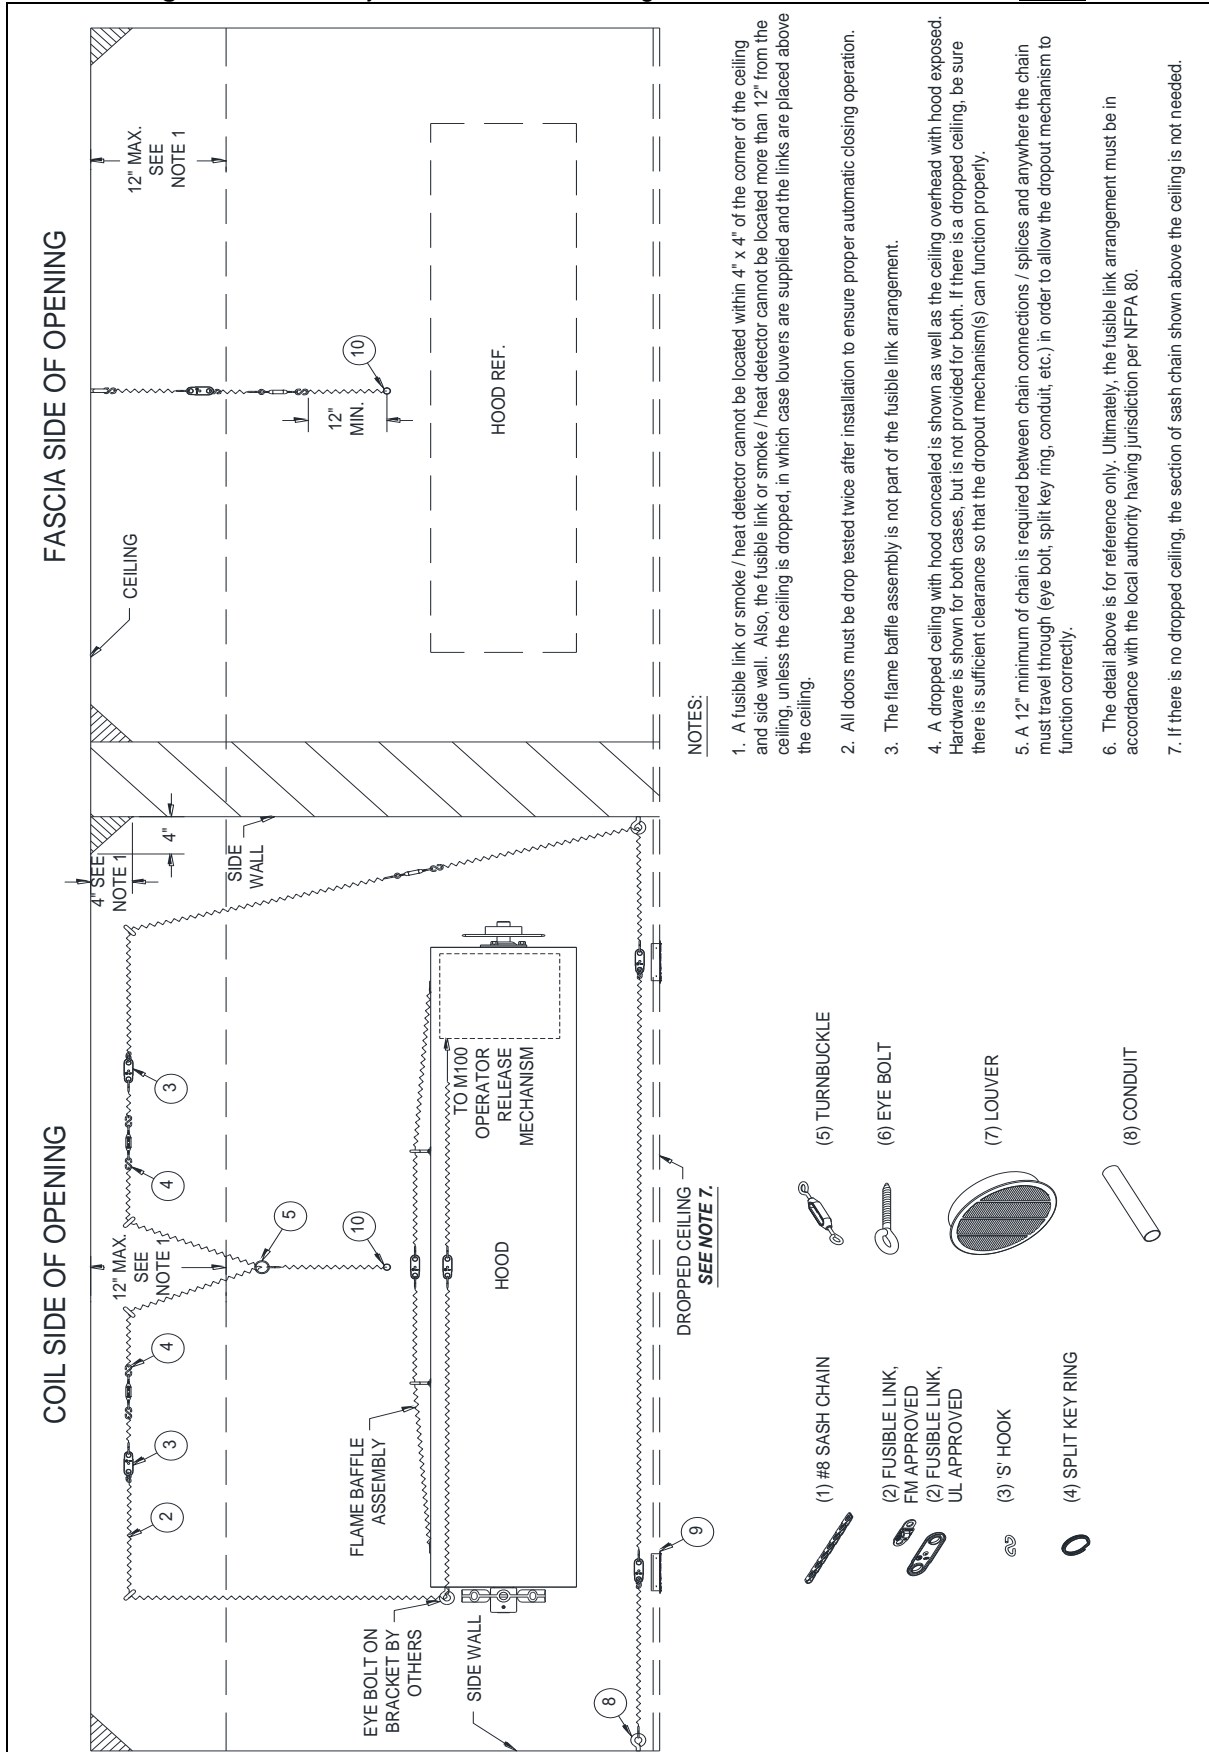

Figure 9.3. Fusible Link Installation for M100 Fire Doors
2. Refer to **Figure 9.3** and the job construction drawings for fusible link installation for **M100** fire doors.